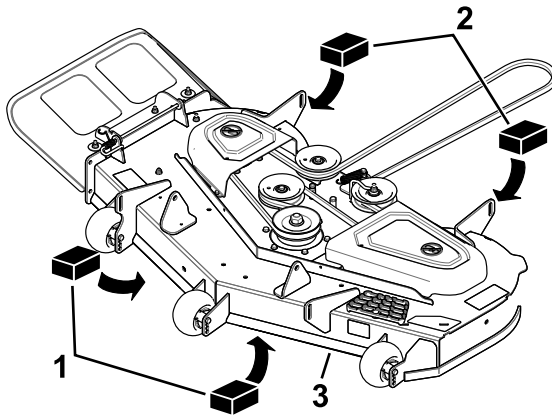

Figure 74
3. Place 2 blocks, each having a thickness of 6.6 cm (2-5/8 inches), under each side of the front edge of the deck but not under the anti-scalp roller brackets (Figure 74).
4. Place 2 blocks, each having a thickness of 7.3 cm (2-7/8 inches), under the rear edge of the cutting deck skirt, 1 on each side of the cutting deck (Figure 74).